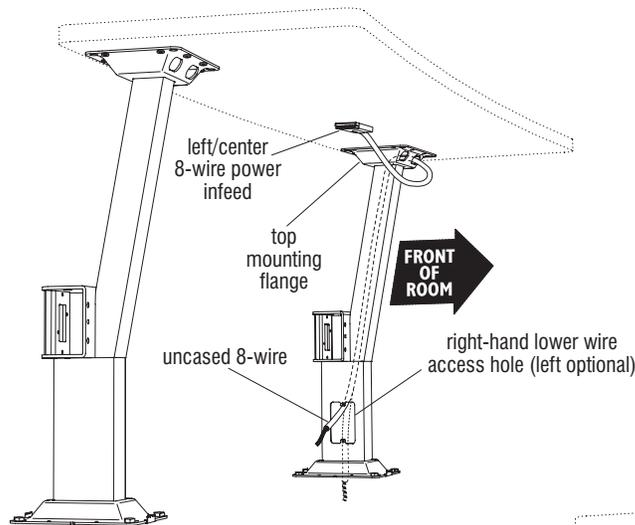

Figure 11a - Left/Center 8-Wire Power Infeed
16. For University worksurfaces with PowerUp, installation of the power and data infeeds can be made easier if infeeds are installed in the base prior to installing the worksurfaces to the bases. Go now to page 10, or 11, depending on infeed type and figure 11a or 11b, page 14 to review the appropriate steps and each note before and after to perform this procedure. Then return back to this spot and continue with step 17 through 20 next page.
31. Refer to the space-planning layout and determine if the 8-wire power infeed is to be a "right", or "left/center" configuration. Choose the appropriate power infeed configuration and run the 8-wire end first through the correct upper wire access hole of the top mounting flange of the base, then down through the oval support tube and out of the base. If wire connections are to be made below floor level, loop the 8-wires down through the base flange as illustrated (Figure 11a or 11b).